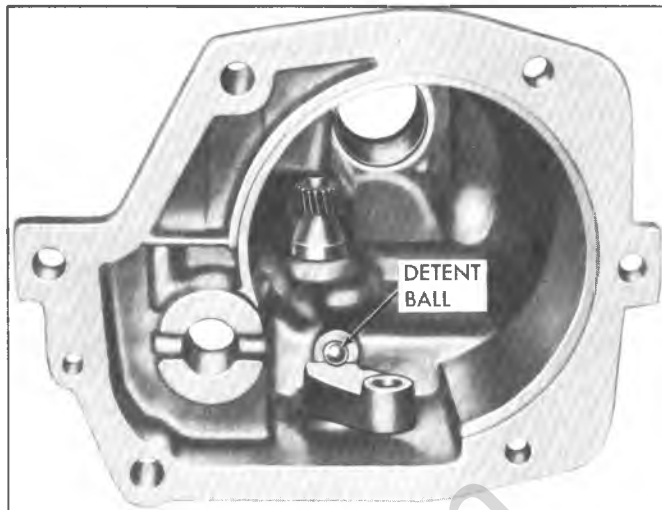

Fig. 11B-Installing Reverse Shifter Shaft and Detent Ball
5. Place detent ball on spring (fig. 11B) and, holding ball down with your thumb or a suitable tool push the shifter shaft back in away from case until it is directly over the ball and turn until the ball drops into detent on the shaft detent plate.